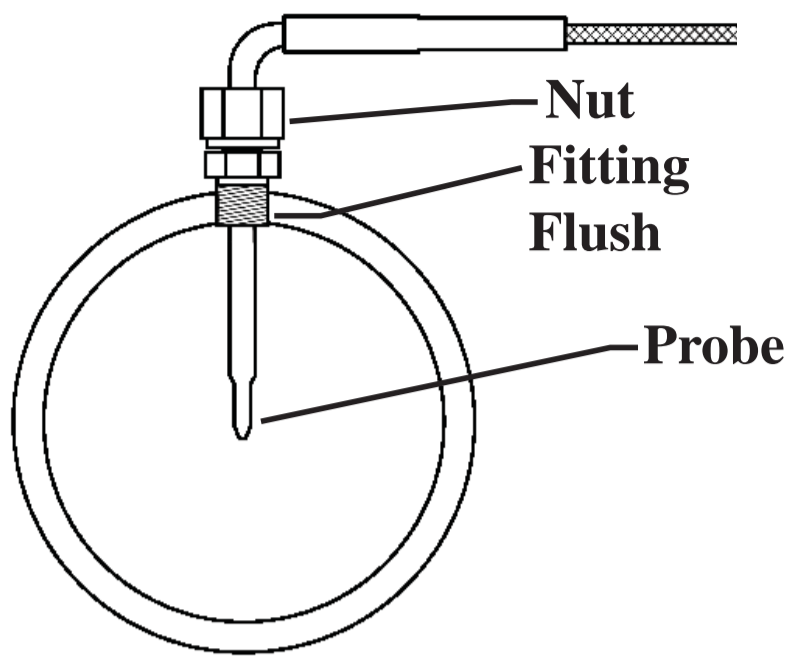

Figure 7 - PROBE INSTALL
- 1) Install the probe into the fitting, and tighten the top nut of the fitting just tight enough to keep the probe firmly mounted. (Figure 7)
**NOTE:** Ideally the tip of the fitting would be less than or flush with the inside of the exhaust flow path. (Figure 7)